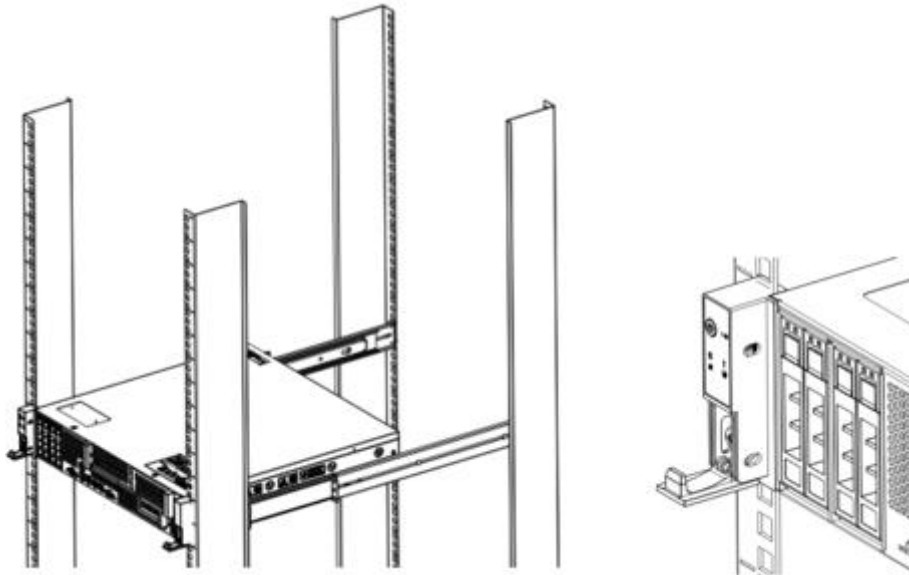

Figure 5.10
5. Lock the fixing screws, the effect of the barebone system is as shown in Figure 5.10: